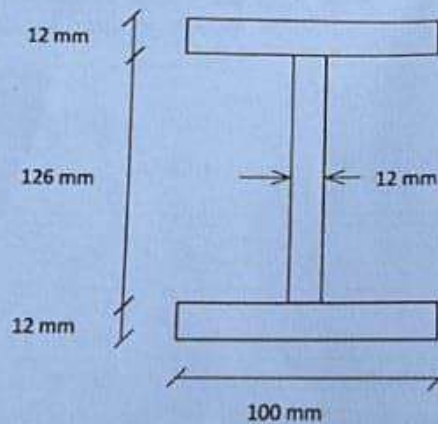

Figure 4
4. A simply supported beam of span 3 m and "I" cross section as shown in figure 4, is loaded with a uniformly distributed load of 25 kN/m. Calculate the maximum bending stress and plot the stress distribution across cross section.